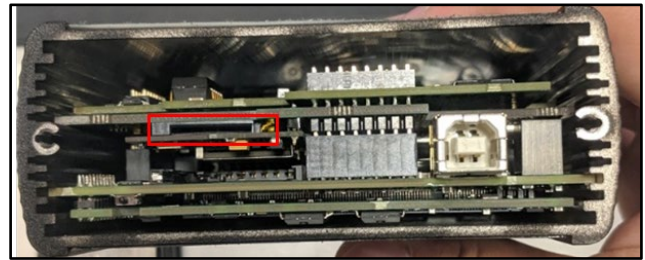

Figure 8
4. Find the SIM card slot (refer to Figure 8).